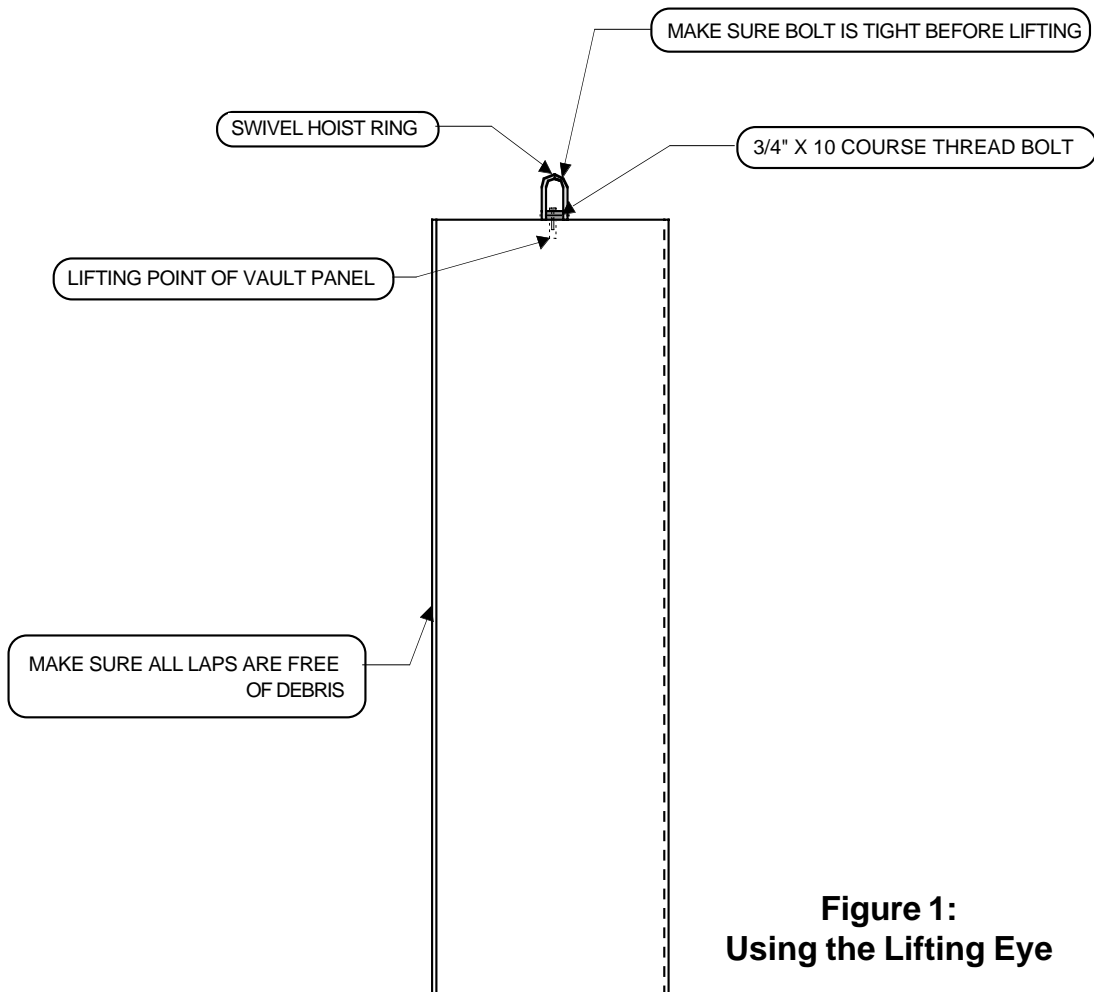

Figure 1:
4. It is recommended that the lifting device allow the panel to spin freely. (See Fig. 1).
- Swivel Hoist Ring (for panels-see instructions on page 3 and Figure 1)